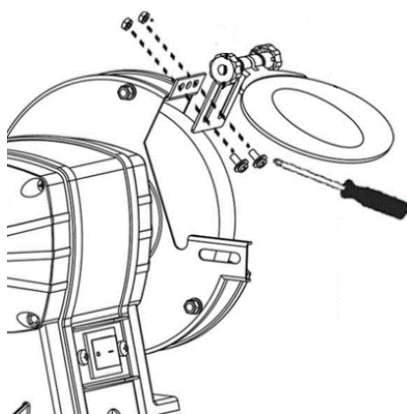

Fig. 2
- Align the spark protector (7) as illustrated in Fig. 2.
- Fix the bracket onto the grinding wheel guard (6) with the screws and nuts provided.
- The gap between the grinding wheel (8) and the spark protector bracket should not larger than 2mm.